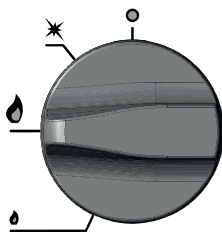
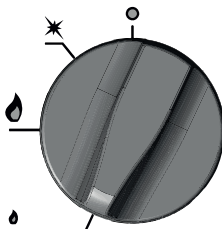

Figure 8. Setting of the knob in which the burner operates at its maximum power.
Figure 9. Setting of the knob in which the burner operates at its minimum power (about 1/3 of the maximum power).
- Turn the knob (counterclockwise) to the full-flame position (Fig. 8) in order to light the main burner (lit by the pilot burner). Then turn the knob further in the same direction to get an energy-saving flame (Fig. 9). The main burner will not be actuated if the pilot burner does not light and heat the gas leak detector. In the event of a temporary fadeaway of flame, the gas leak detector will cut off the gas supply to the burner.